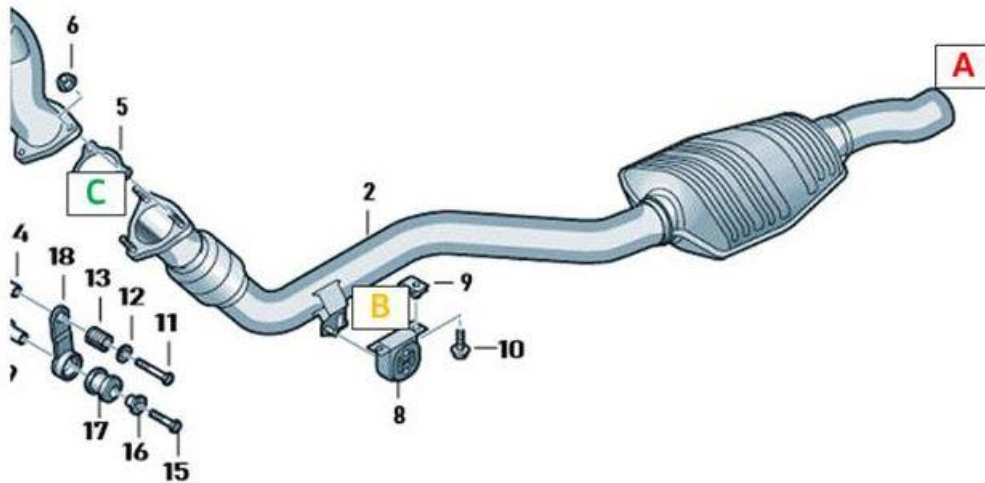

Figure 1. Example of locations to loosen and tighten.
- Loosen the exhaust clamp (A), exhaust bracket (B)
- Then re-tighten beginning with clamp (A) and then bracket (B) (Figure 1).
4. Test drive vehicle to verify that the concern is no longer present. If the issue persists continue with the following steps (Figure 1):
- Repeat and loosen the exhaust at (A), (B) and also the flange (C) to the catalytic converter.
- Then tighten in the following sequence: First, the flange (C), second the exhaust clamp (A), and finally the exhaust bracket (B).